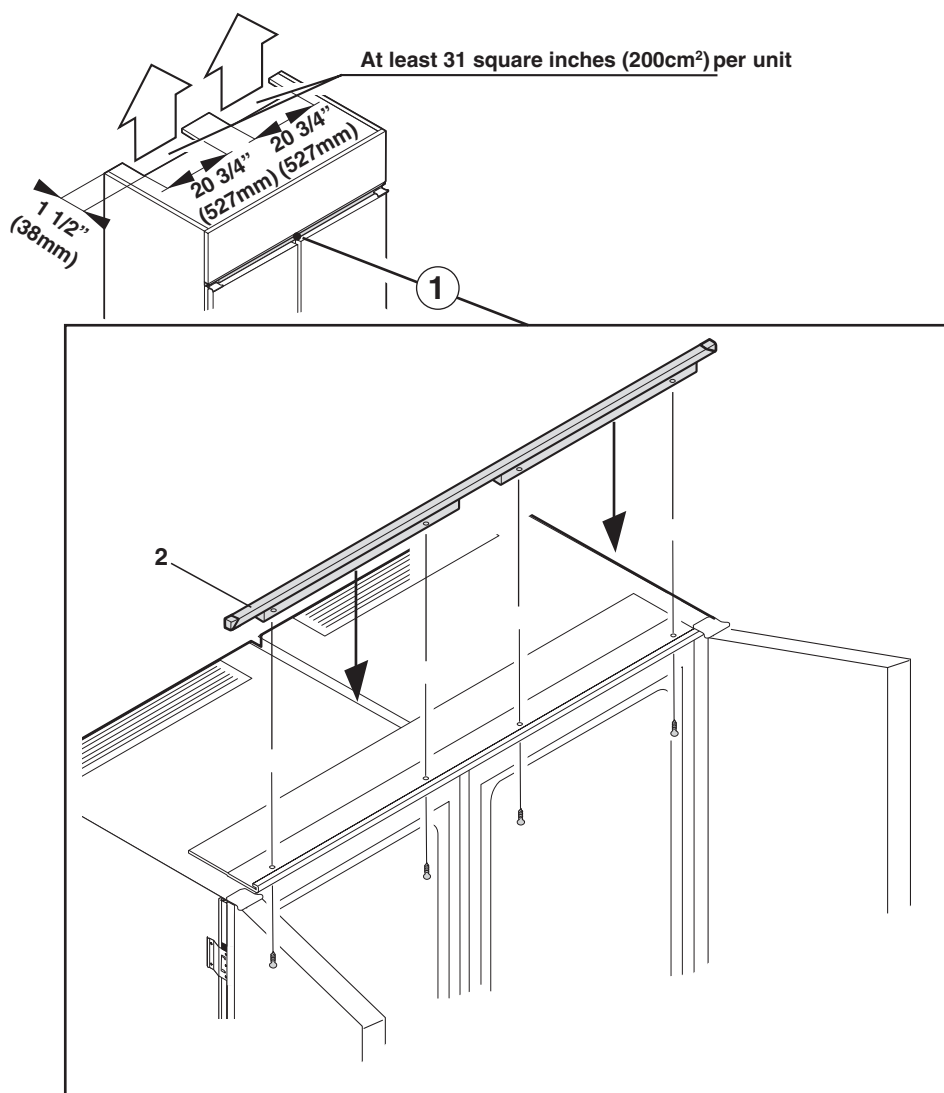

Figure 33
1. For built-in appliances without ventilation grilles and only with installation frame (2), ventilation must take place through the ventilation duct at the rear of the cabinet. Ensure that the ventilation cross-section is at least 31 square inches (200 cm²) per appliance. At least 62 square inches (400 cm²) for side-by-side installation of two appliances. Built-in appliances with an installation frame:
- **Figure 33:** Screw the installation frame (2) to the appliance through the attachment brackets.